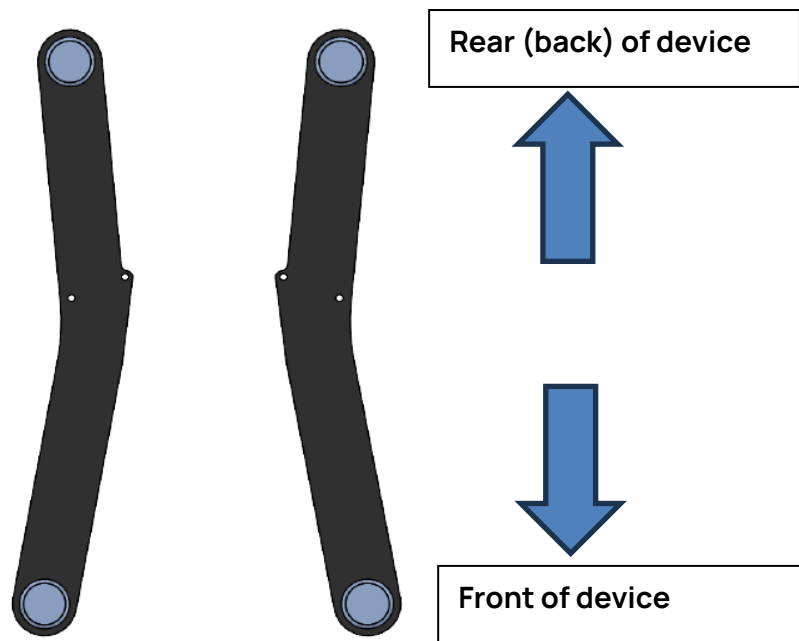

Figure 1 Feet
- b) **Feet (2)**, found in the top and bottom Foam shock absorbers or taped to inside of cardboard crate: see Figure 1 Feet
- 3) The screws to attach the feet are pre-inserted in the bottom of the unit at the factory – remove the top and bottom foam shock absorbers to locate the end of the device that has screws protruding (Units with doors: screws protrude from metal bracket); this is the bottom of the device. Using a #3 Phillips screwdriver, remove the screws, then position the first foot so that its “longer” side is toward the front (the lamp side of the device – see Figure 1) and the side of the foot with the rubber pads is towards the floor. Mount the feet using the screws that were removed from the bottom of the device. Repeat the process for the second foot. Do not overtighten screws.